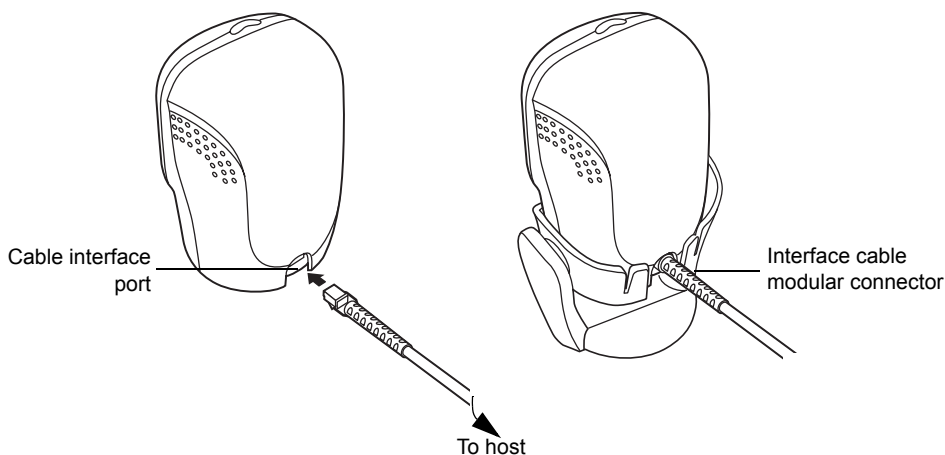

Figure 1-2. Installing the Interface Cable
2. Plug the interface cable modular connector into the interface cable port on the rear of the WPS100 (See Figure 1-2.)